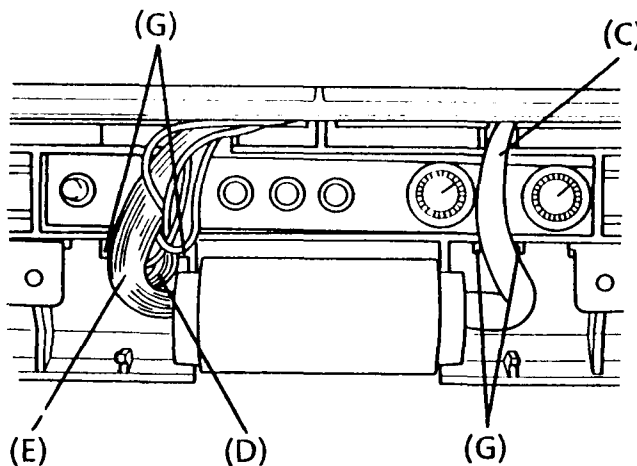

FIGURE 4-8 Cable Position
- (1) Put the plasma display power cable (C) to your right, and the volume board cable (D) and plasma display signal cable (E) to your left as shown in figure 4-8.
- (3) Put the cable guide in the top cover, then place each cable in the two ditches (G) of the PDP cover assembly as shown in figure 4-8.